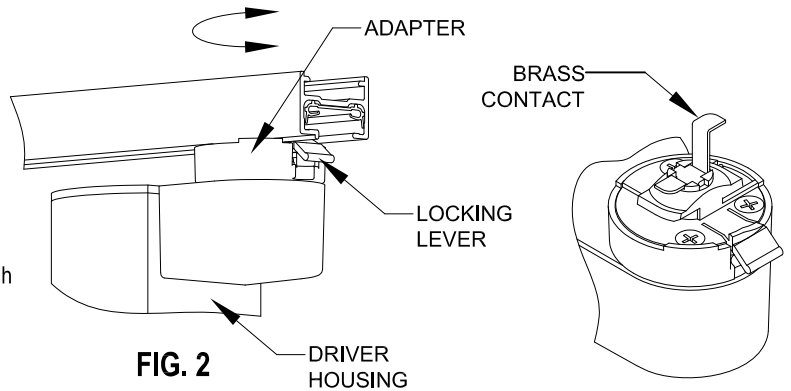

FIG. 2
2. Rotate fixture ADAPTER 90° clockwise with the help of the DRIVER HOUSING until LOCKING LEVER snaps and locks in place (FIG.2)
3. To remove, depress LOCKING LEVER, then rotate ADAPTER 90° counterclockwise with the help of the DRIVER HOUSING (FIG.2)